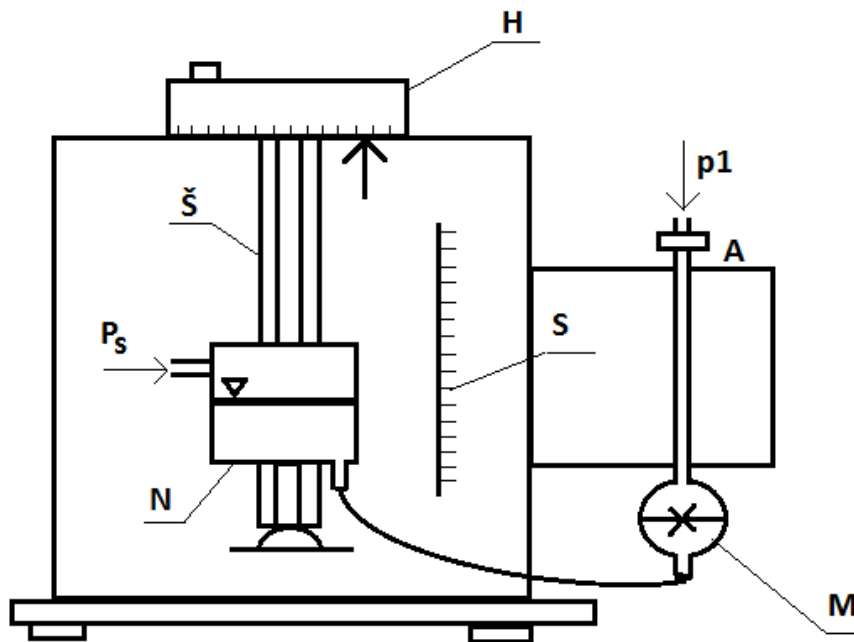

Fig. 4 Micromanometr Askania
1. Before the measurement, we perform adjustment of micromanometer Askania (Fig. 4) to zero for a given barometric pressure.
4. Micromanometer data will be considered without systematic errors. For the first 10, 20 and 30 readings we will calculate the average, in order to evaluate differences in measurement results. For each number of measurements  $n = 10$ ,  $n = 20$ ,  $n = 30$  we will calculate the estimate of the error of the arithmetic mean according to equation (4). Bring the sizes of reached errors in the table and graph and evaluate them!